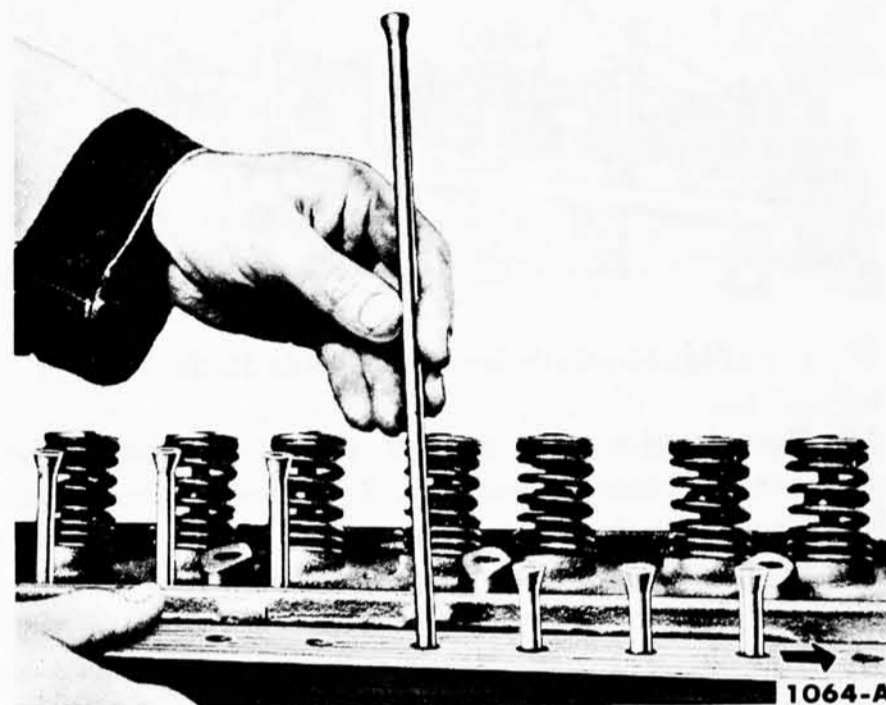

Fig. 13—Valve Push Rod Removal
7. Loosen all rocker arm adjusting screws to remove the valve spring load from the rocker arms, then remove the rocker arm shaft assembly. Remove the valve push rods in sequence. Identify them so they can be installed in their original positions (Fig. 13).